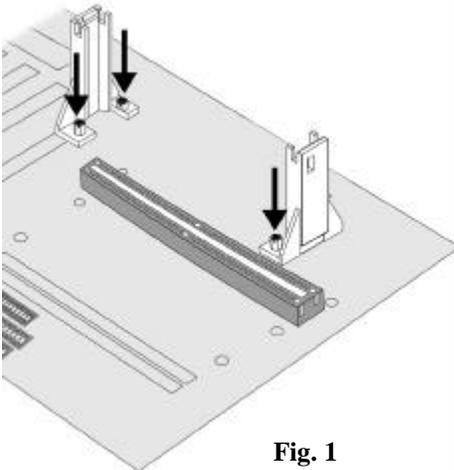

Fig. 1
**For Celeron CPUs:** Locate SLOT 1. Push the Retention Mechanisms until they are firmly locked into place. (Fig.1)